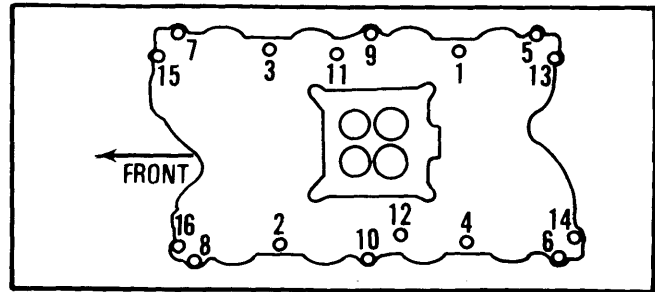

Fig. 1 Tightening Sequence for Intake Manifold
- 3) Lower intake manifold on engine and check for correct positioning of gaskets and seals before installing attaching bolts and nuts. Install bolts and nuts, then tighten in sequence shown in Fig. 1.